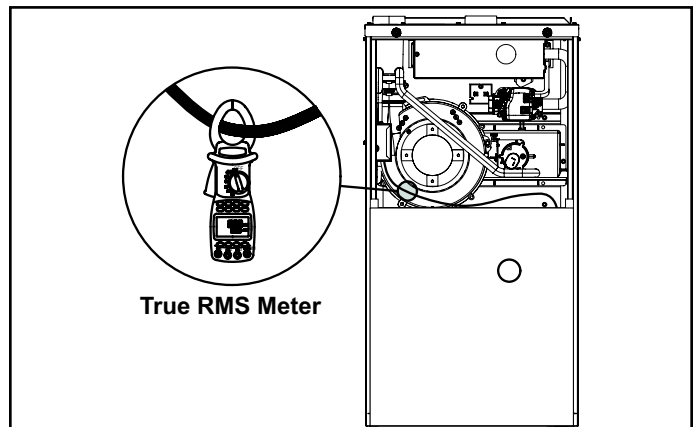

Figure 61. Check Motor Amp Draw
3. Check amp-draw using a true RMS meter on the blower motor with blower access panel in place. See Figure 61.